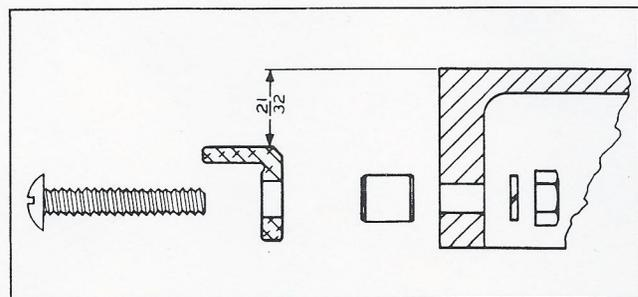

FIGURE 2
The front fence bar must be fastened to the front edge of the saw table with three (3) slotted head screws, No. 8, spacers, No. 9, lock washers, No. 10, and hex nuts, No. 11. See Fig. 2.